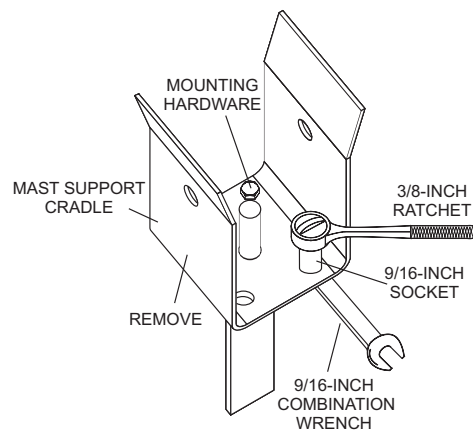

Figure 4. Mast Support Cradle Removal
5. Using a 3/8-inch ratchet (Figure 4) with a 9/16-inch socket and a 9/16-inch combination wrench, remove the mounting bolts and associated hardware securing the mast support cradle to the frame. Set mounting hardware aside and remove mast support cradle.